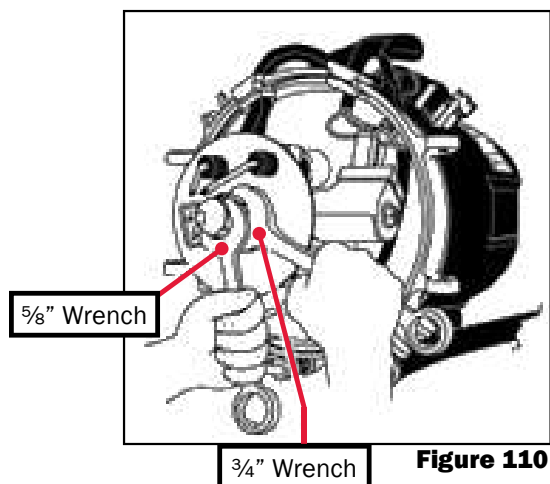

Figure 110
1. Use a $\frac{3}{4}$ " wrench to hold the fuel nozzle stand hex while loosening the fuel nozzle with a $\frac{5}{8}$ " wrench and remove as shown in Figure 110.